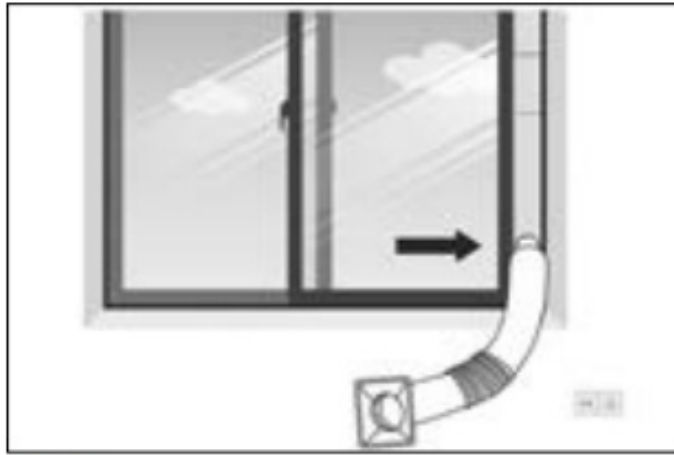

Fig. 4
4. Close your window to secure the kit firmly in place. Fig. 4